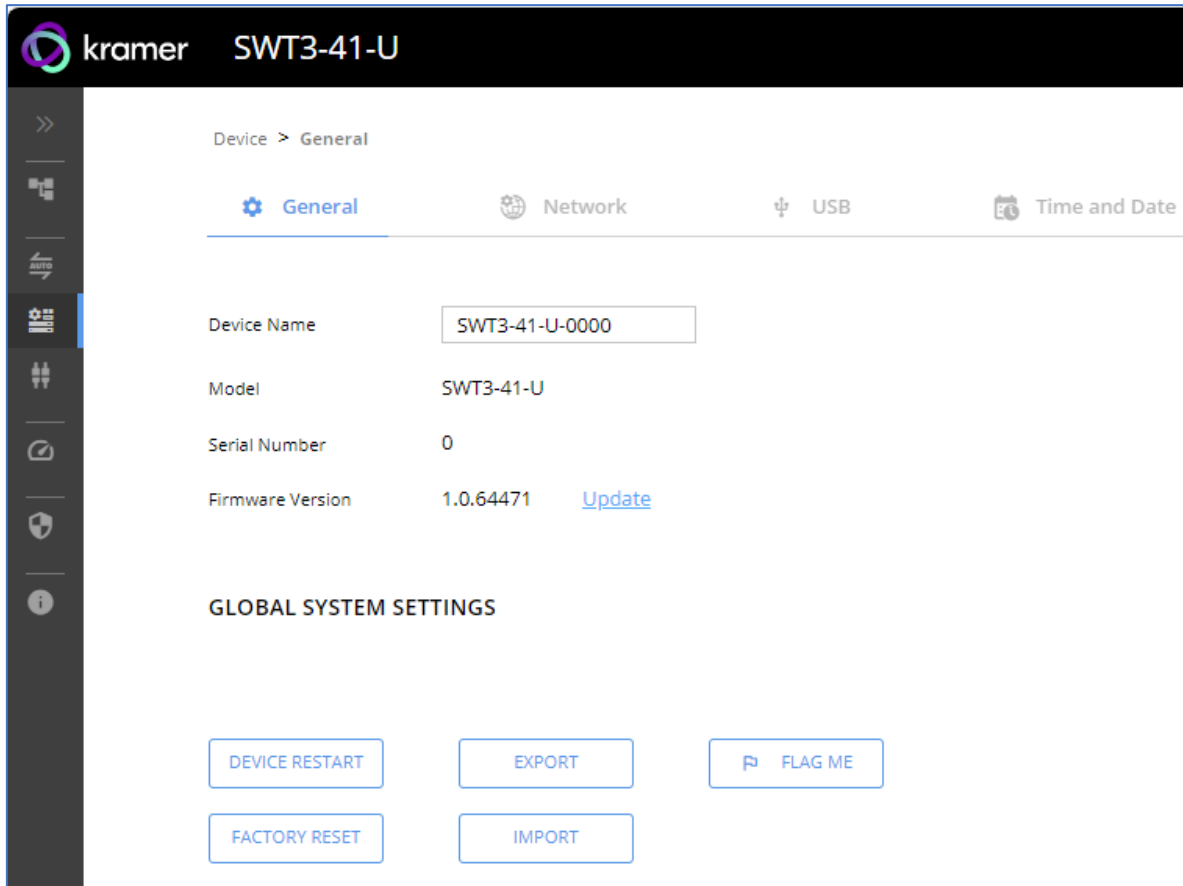

Figure 13: Device > General Tab
1. Go to the **Device > General** page (Figure 13).
- Click **DEVICE RESTART** on the **Device > General** page (Figure 13).
- Click **FACTORY RESET** on the **Device > General** page (Figure 13).